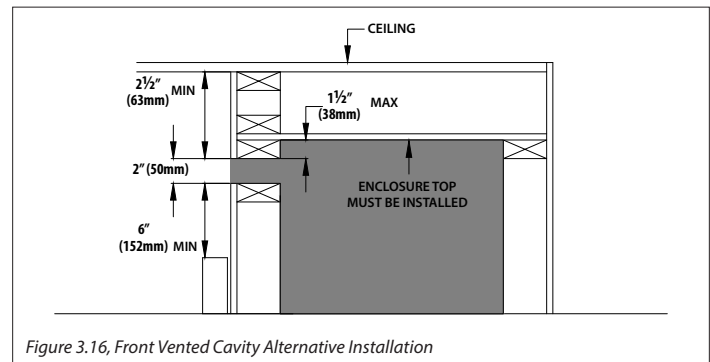

Figure 3.16, Front Vented Cavity Alternative Installation
- Figure 3.16 shows an alternative installation method where you cap off the fireplace cavity so the air discharge opening can be located further down the fireplace chamber. If you cap the fireplace cavity off, it cannot have any vent pipe running through the top with a ceiling firestop. This installation method can elevate any possible concerns with paint discoloration from heat or dust.